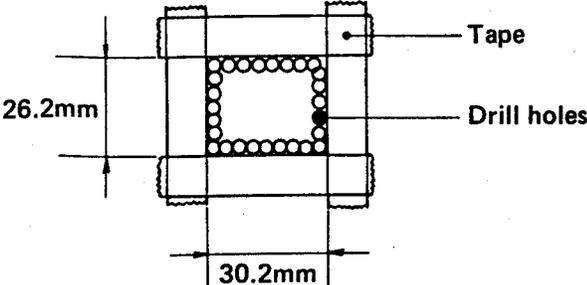

Fig. 2
2. Outline with tape along those lines of 30.2mm (1.19in.) x 26.2mm (1.03in.) as shown Fig. 2.